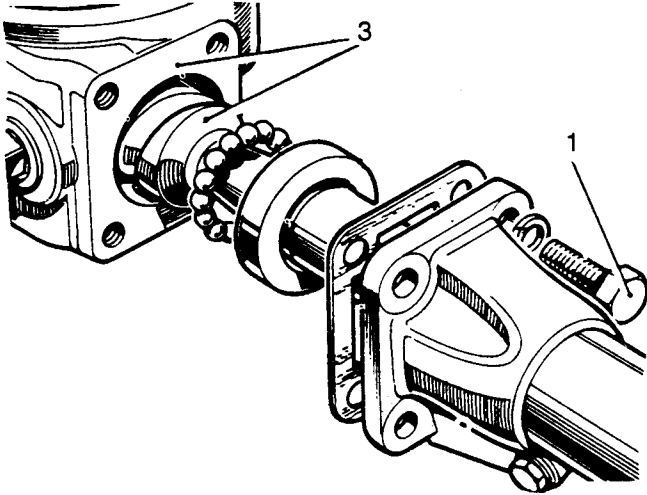

Fig L5.7
- (9) Refer to Fig L5.7. Refit the box and inner column (3) complete to the outer column.
- (10) With the outer column held in a vice, replace the fixings (1) securing the steering box.